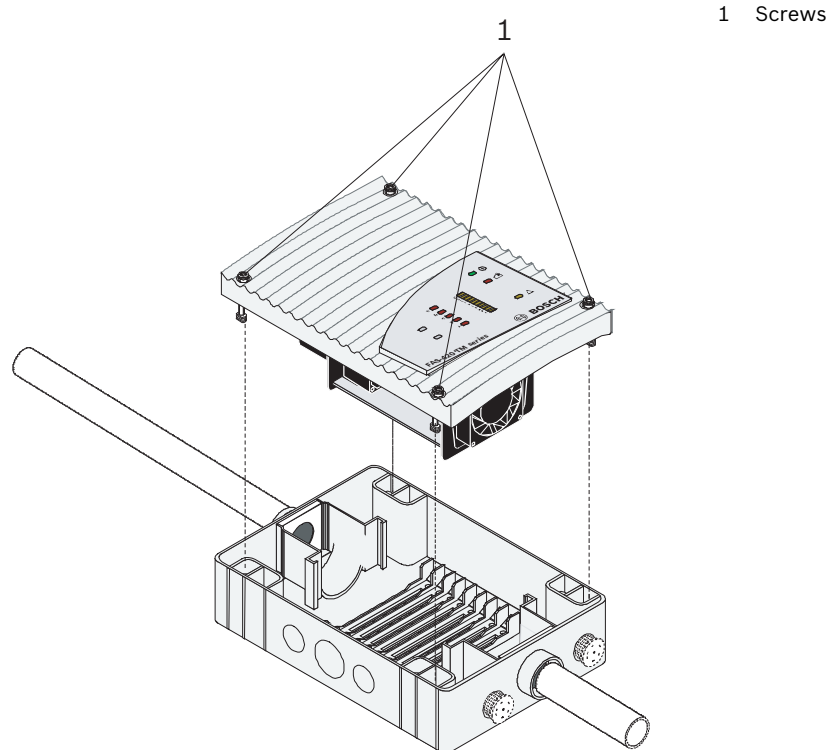

Figure 4.6 Replacing the detector module of the FAS-420-TM
4. Insert the detector module into the pre-mounted housing base. When doing this, be aware of the mechanical coding, which protects the device against twisting. Tighten the four screws of the detector module using a screwdriver (see *Figure 4.6*).